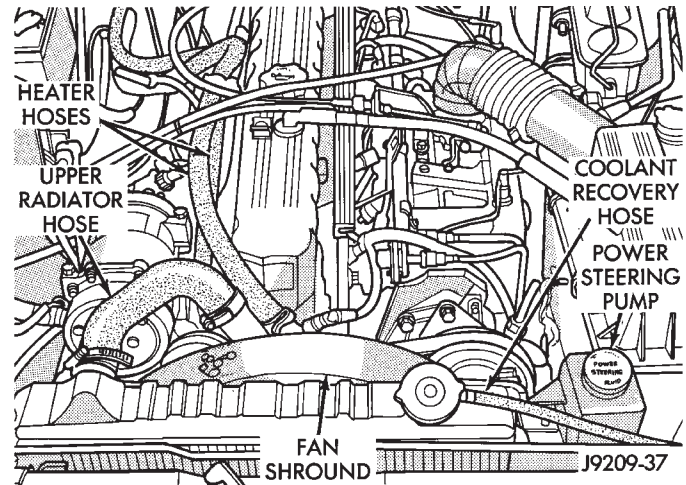

Fig. 19 Upper Radiator Hose, Coolant Recovery Hose, Fan Shroud & Power Steering Pump
- (18) Disconnect the oxygen sensor wire connector.
- (19) Remove the upper radiator hose and coolant recovery hose (Fig. 19).
- (20) Disconnect lower radiator hoses at the radiator.
- (21) Disconnect the coolant hoses from the rear of the intake manifold and thermostat housing.
- (22) Remove the fan shroud screws.
- (23) Remove the radiator attaching bolts.
- (24) Remove the radiator and fan shroud (Fig. 19). Refer to Group 7, Cooling System for the proper procedure.
- (25) Remove the fan and spacer or Tempatrol fan assembly.
- (26) Install a 5/16 X 1/2-inch SAE capscrew through fan pulley into water pump flange. This will maintain the pulley and water pump in alignment when crankshaft is rotated.
- (27) Remove the power brake vacuum check valve from the booster, if equipped.
- (28) If equipped with power steering (Fig. 19):
- (29) Lift the vehicle and support it with support stands.
- (30) Remove the starter motor.
- (31) Remove the flywheel housing access cover.
- (32) Remove the engine support cushion-to-bracket through bolts.
- (33) Disconnect the exhaust pipe from the manifold.
- (34) Remove the upper flywheel housing bolts and loosen the bottom bolts.
- (35) Lower the vehicle.